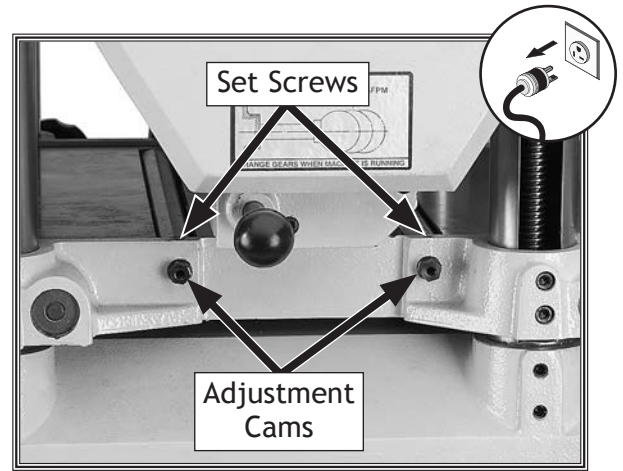

Figure 20. Bed roller height controls.
3. Loosen set screws (see **Figure 20**) above each of four roller adjustment cams (there are two on each side of planer).